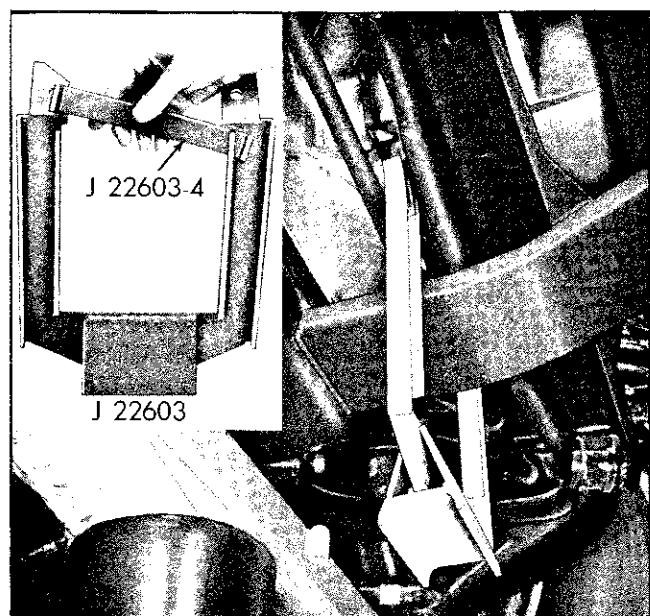

Fig. 6-74 Engine Lifting Tool Installed—Pontiac and Tempest
1. Raise hood and, using J 22603 engine lifting tool, (Fig. 6-74), take weight of engine off front insulators.
1. Raise hood and, using J 22603 engine lifting tool, Fig. 6-74, take weight of engine off front insulators.